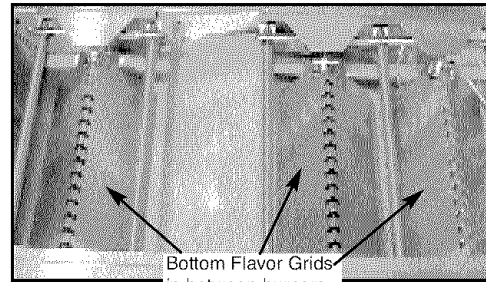

Fig. 11
1. Check to make sure the bottom Flavor Grids are correctly installed in the cutouts and around the ignitors, as they may have shifted during shipment. (See Fig. 11)